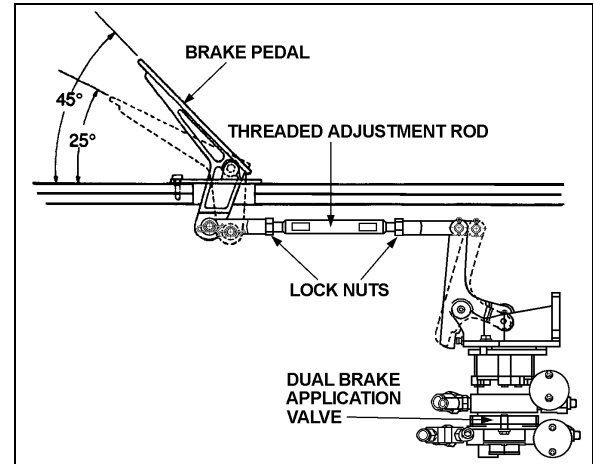

FIGURE 13: BRAKE PEDAL ADJUSTMENT
The E-10P dual brake valve is a floor mounted, foot-operated type brake valve with two separate supply and delivery circuits. This valve is located in the front service compartment (Fig. 13).
1. Replace the linkage, loosen threaded rod lock nuts and screw or unscrew the threaded adjustment rod in order to obtain a 45° brake pedal inclination (Fig. 13).